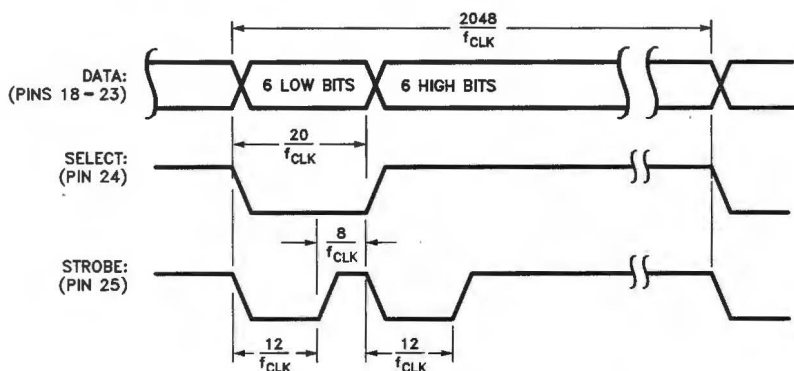

FIGURE 8. 12-Bit Multiplexed Output Timing
2. LM628 (12-bit output mode): Outputs two, multiplexed 6-bit words. The less-significant word is output first. The MSB is on Pin 18 and the LSB is on Pin 23. Pin 24 is used to demultiplex the words; Pin 24 is low for the less-significant word. The positive-going edge of the signal on Pin 25 is used to strobe the output data. Figure 8 shows the timing of the multiplexed signals.
The LM628 DAC out either a latched eight 12-bit output. The 8-bit a flow-through (non-in latch and an input-latch output data is offset-80 hex and the 12-bit than these cause a motor and, converse torque. The LM628, vides signals which c *Figure 8* for details.